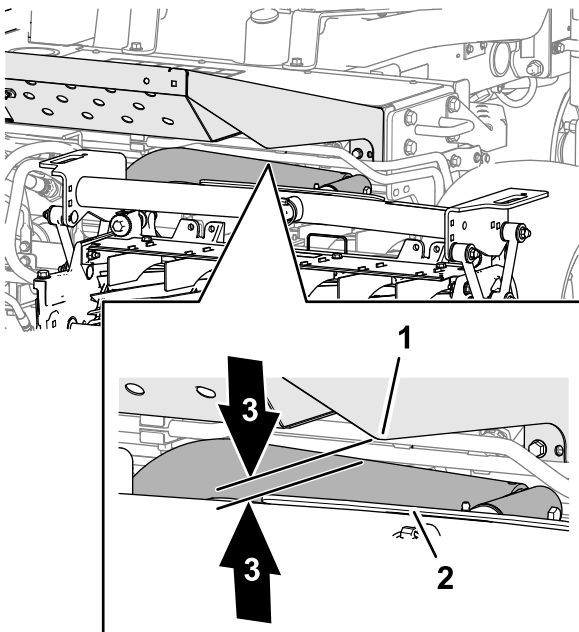

Figure 24
3. At the front cutting units, measure the distance between the left lift arm and the floor plate bracket, and the right lift arm and the floor plate bracket (Figure 24).